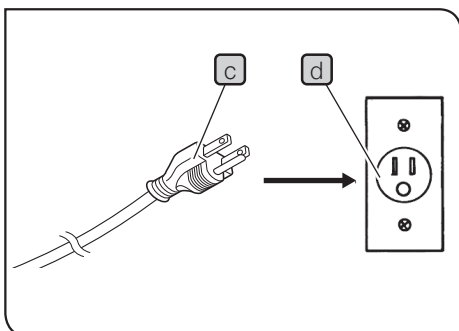

Fig.61
- 2 Plug the power cord plug **c** into the wall outlet **d**. (Fig.61)
- 2 Plug the power cord plug **g** into the wall outlet **h**. (Fig.61)